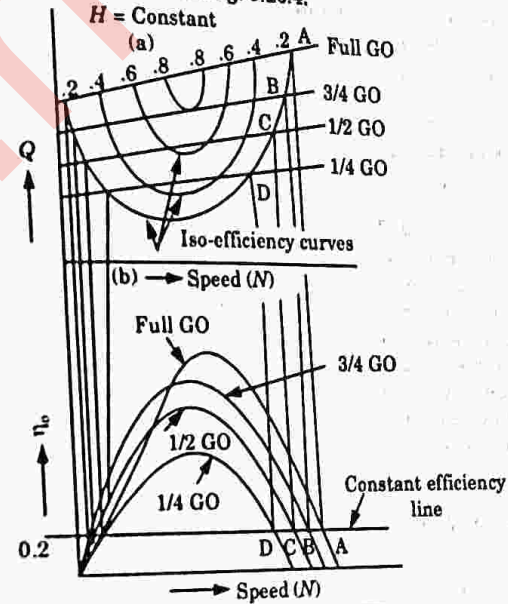

Fig. 5.26.4. Constant efficiency curves.
- These curves are shown in Fig. 5.26.4.